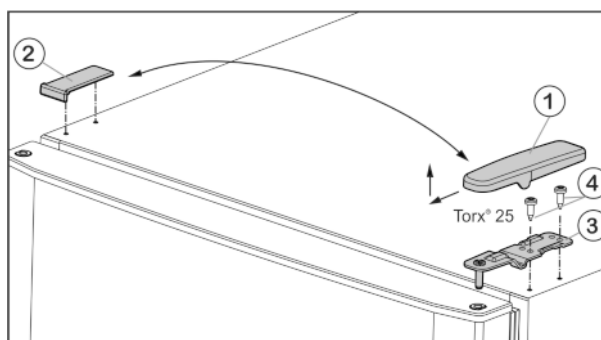

Fig. 4
- ▶ Pull off the cover Fig. 4 (1) forwards and upwards.
- ▶ Lift off the cover Fig. 4 (2).
- ▶ Unscrew the upper turn hinge *Fig. 4 (3)*(2x Torx® 25) *Fig. 4 (4)* and lift it off.
- ▶ Insert the upper turn hinge *Fig. 4 (3)* in the door on the new hinge side.
- ▶ Screw the upper turn hinge **firmly** into place (**with 4 Nm**) (2x Torx® 25) *Fig. 4 (4)*. Possibly make preliminary holes with a bradawl or use a cordless screwdriver.
- ▶ Fit the cover *Fig. 4 (1)* on the opposite side by sliding it rearwards and latching it into place.
- ▶ Press the cover *Fig. 4 (2)* on the opposite side down into place until it latches.